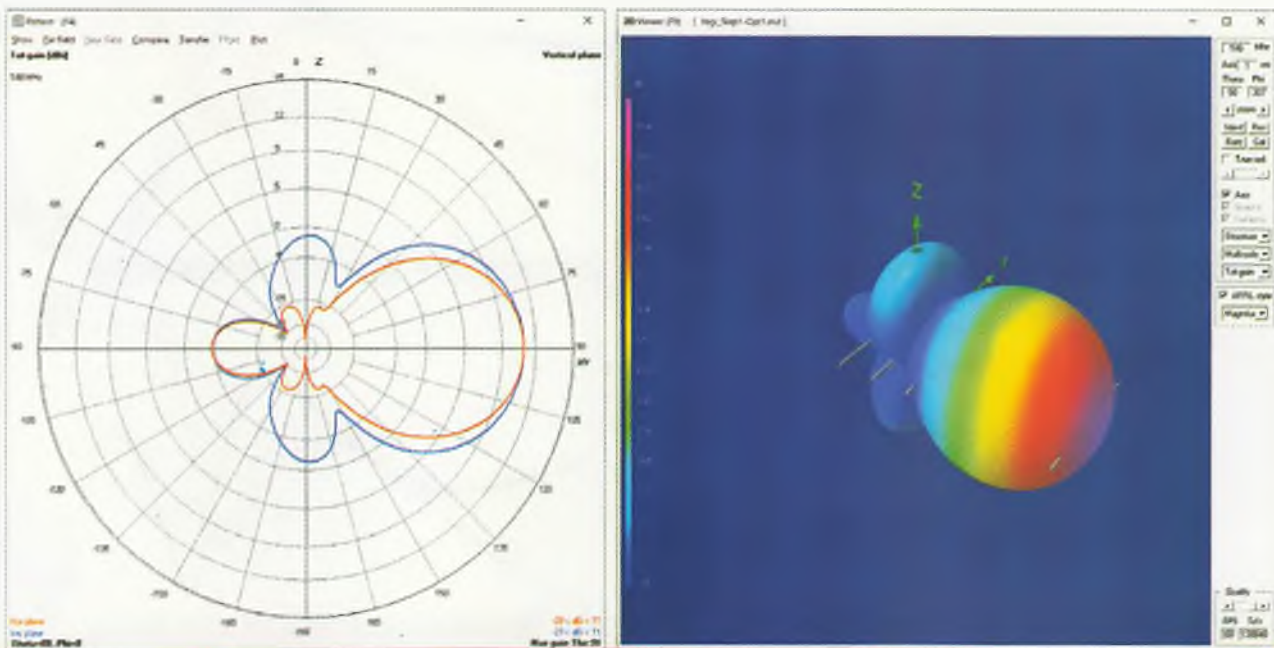

Figure 4-3. 5-element 2m Yagi model – Starting Parameters – Radiation Pattern.
If we calculate the performance of this antenna using Main>Calculate>NEC Output Data F7>Use original file>Generate, we get the radiation pattern shown in the left-hand image of Figure 4-3, which shows the azimuth and elevation views of the radiation pattern of the antenna. If you select Main>3D you can also get a three-dimensional view of the same antenna gain performance as is shown on the right-hand image of Figure 4-3.
to select: Structure, Multi-colour and Tot-gain, as shown in the image (these are not the default values). Click and drag on the blue area to rotate the image. The parameters for Figure 4-3 have been selected by using the Radiation Pattern (RP) command. In this case, we have asked for 361 steps in azimuth and also 361 steps in elevation, where each step is one degree.